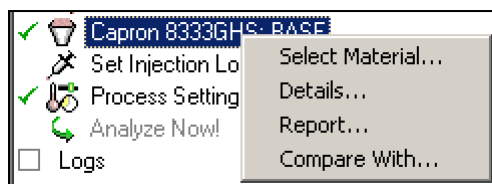

Figure 296: Compare materials
- Right-clicking on the material in the **Study Tasks** pane and selecting **Compare With**, as shown in Figure 296.